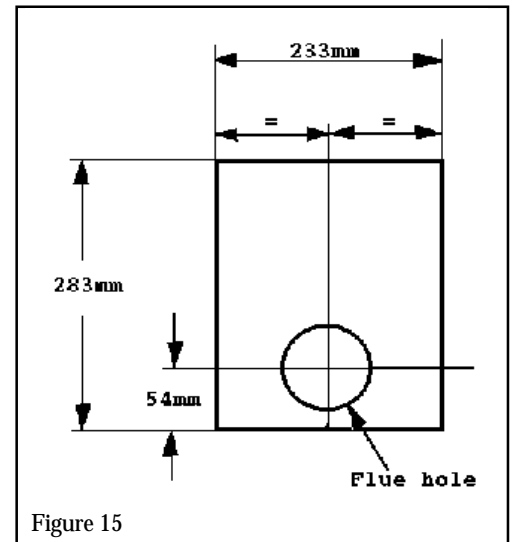

Figure 15
6.13 If it is intended to recess the fan box into the outer wall, make a rectangular opening as shown in figure 15. The depth of the recess is 145mm leaving the 50mm minimum projection required outside the wall.